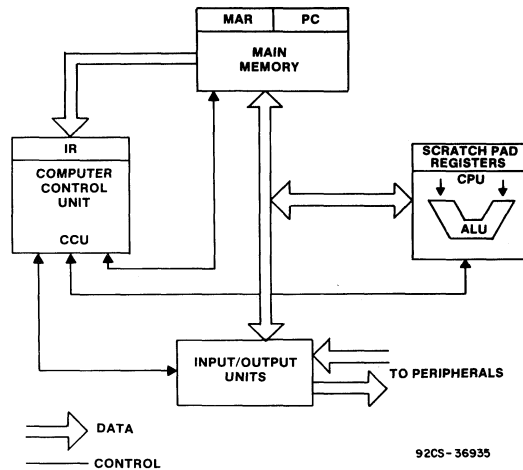

Fig. 1 - Basic classical computer.
Fig. 1 shows the basic components of a classical von Neuman computer architecture. A main memory contains instructions and data to be operated upon. The arithmetic logic unit (ALU) processes the information, and a computer control unit (CCU) oversees the flow of control signals that determine ALU operation and steer data to and from the ALU as well as into and out of I/O devices. Also fundamental to computer operation are a memory address register (MAR) and program counter (PC) (here shown as part of the main memory), some scratchpad registers incorporated in the CPU, and an instruction register (IR), which is part of the CCU block. It is the function of the CCU to decode the operation-code portion of the IR and generate the sequence of control signals needed by the CPU, the memory, and the I/O portions of the system.